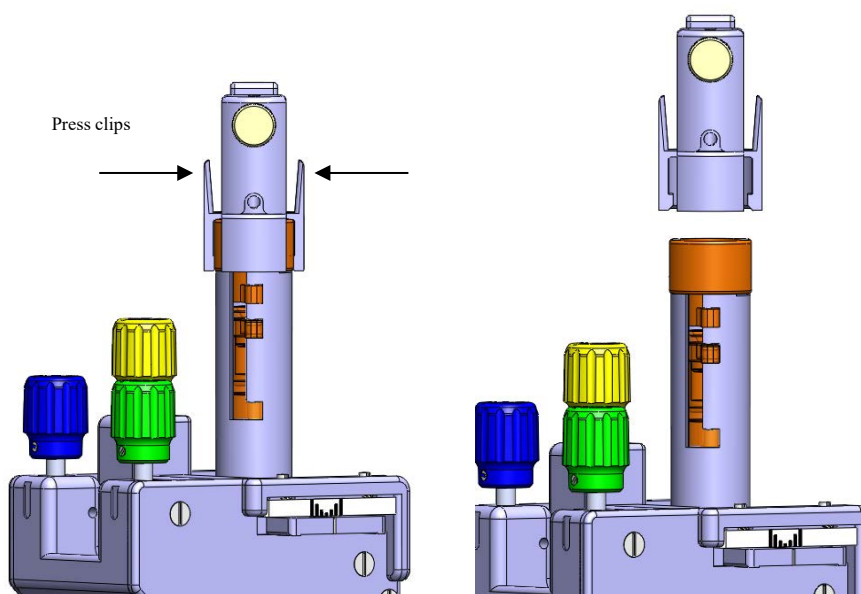

Figure 27: Removing the Dock and Lock
Note: To facilitate easier attachment to the Cap, it may be necessary to pinch the center of the Lock and Dock Assembly to flare out the Dock elements with white paint. **See Figure 27.**
4. Remove the Dock and Device Lock Assembly by squeezing the clips to separate it from the SMARTFrame. **See Figure 27.**